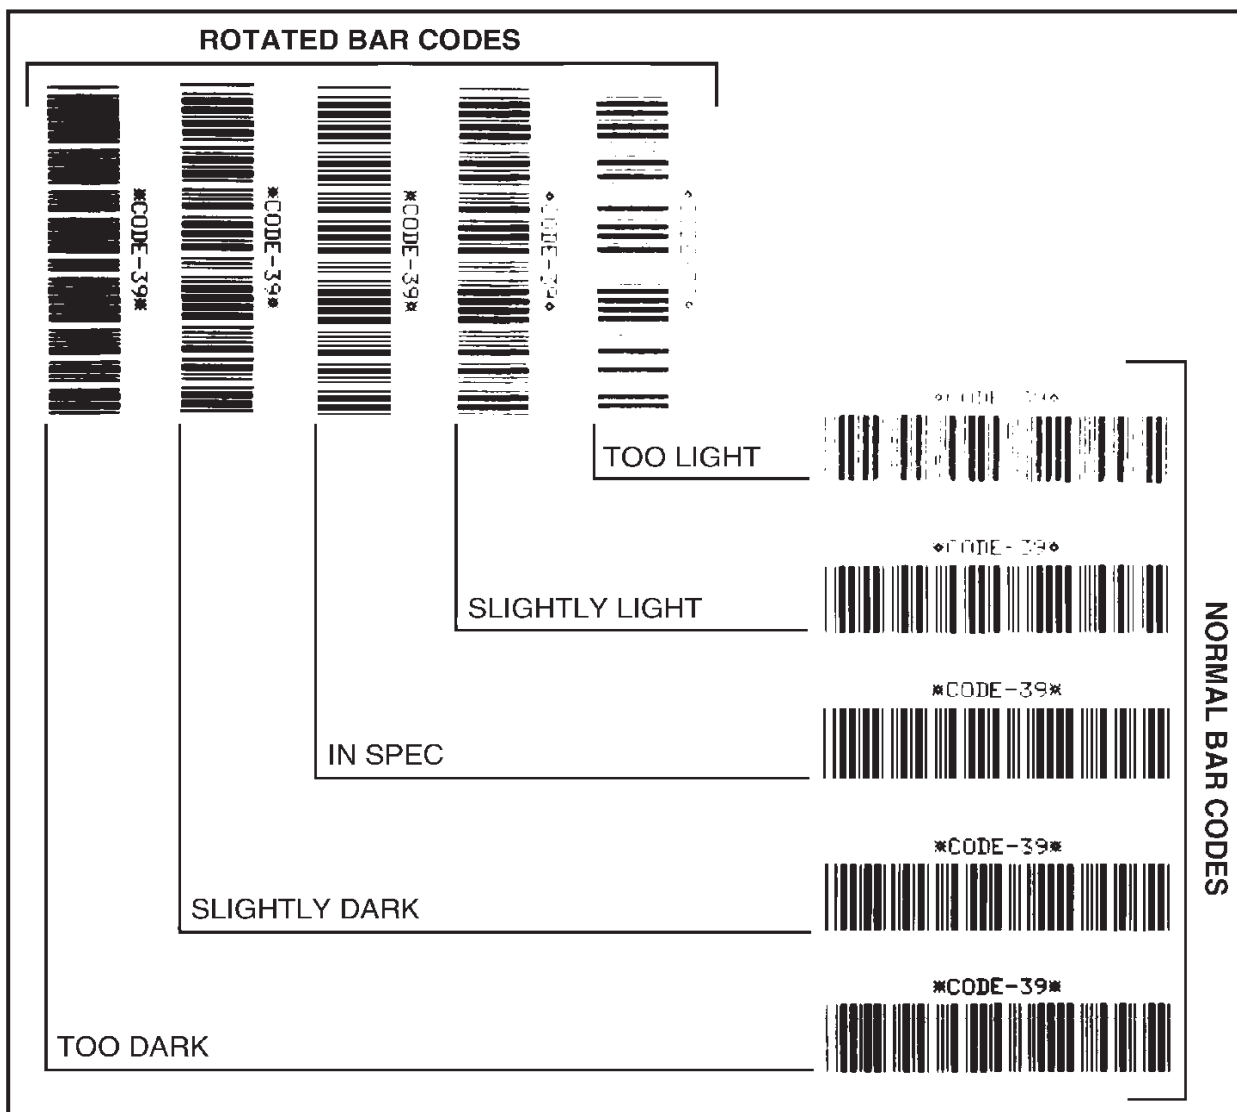

Figure 28. Bar Code Darkness Comparison
4. Compare the test label printed to the bar codes in Figure 28. If the test label appears too dark or too light, refer to “Configuration and Calibration” and increase or decrease the darkness setting accordingly.